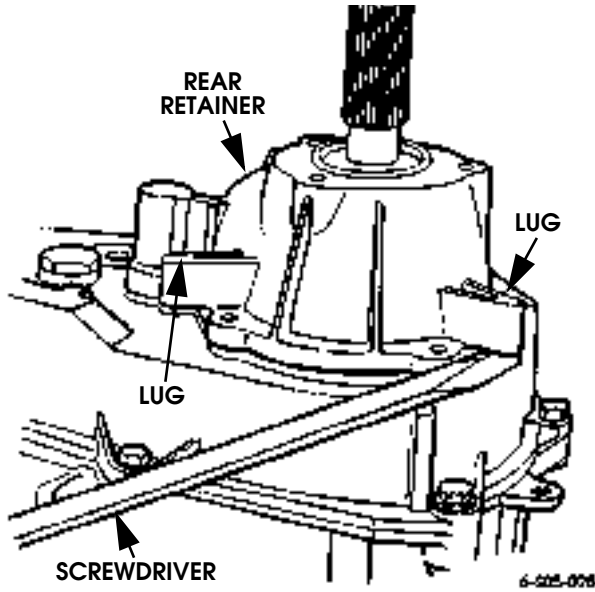

Figure 5-86: Rear Retainer Removal
6. Pry rear retainer upward at each lug with screwdriver (Figure 5-86). Remove retainer after breaking sealer bead.